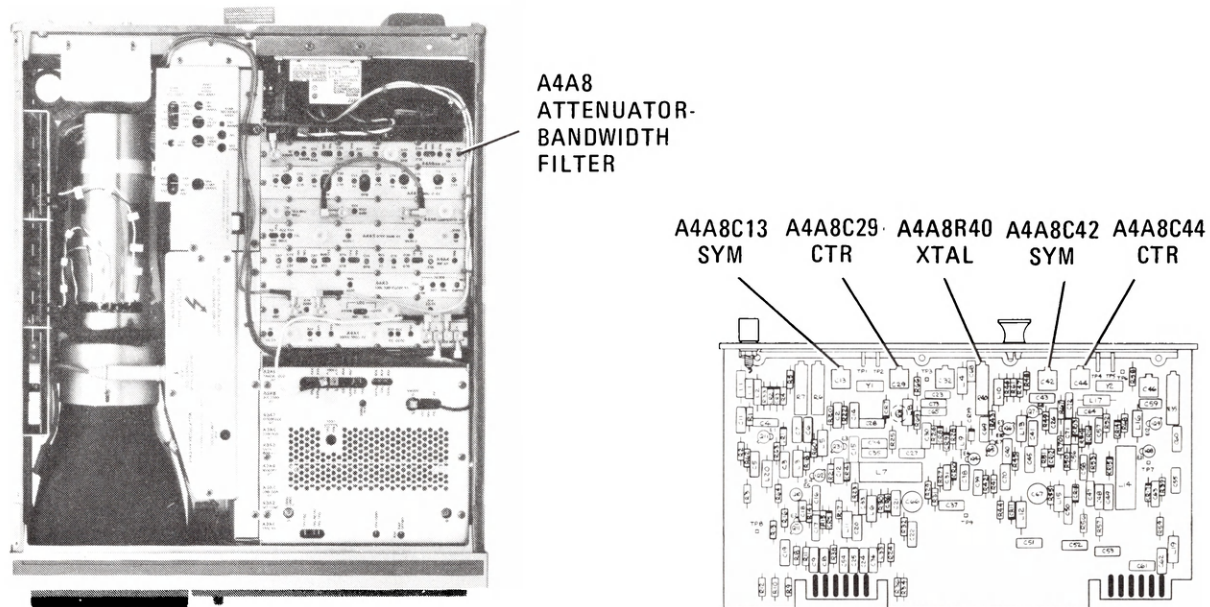

Figure 5-30. Location of A4A8 21.4 MHz Crystal Filter Adjustments
45. Adjust A4A8C44 CTR to center signal on center graticule line. Adjust A4A8C42 SYM for best symmetry of signal. Refer to Figure 5-30 for location of adjustments. If unable to adjust SYM for satisfactory signal symmetry, increase or decrease value of A4A8C14. Refer to Table 5-3 for range of values.
47. Adjust A4A8C29 CTR to center signal on center graticule line. Adjust A4A8C13 SYM for best symmetry of signal. Refer to Figure 5-30 for location of adjustments. If unable to adjust SYM for satisfactory signal symmetry, increase or decrease value of A4A8C14. Refer to Table 5-3 for range of values.
52. Adjust A4A8R40 XTAL to align markers on display. MARKER  level should indicate 1.00 X. Refer to Figure 5-30 for location of adjustment.